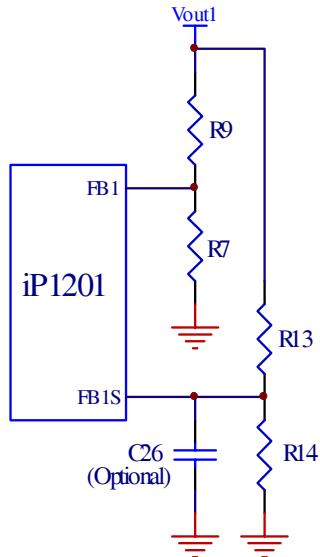

Fig. 19: Typical scheme for output voltage setting
Both outputs of the iP1201 will shut down if either one of the outputs experiences a voltage in the range of 115% of  $V_{OUT}$ . The overvoltage sense pins FB1s and FB2s are connected to the output through voltage dividers,  $R_{13}$  and  $R_{14}$  (Fig. 19), and the trip setpoints are programmed according to equation (1). Separate overvoltage sense pins FB1s and FB2s are provided to protect the power supply output if for some reason the main feedback loop is lost (for instance, loss of feedback resistors). If this redundancy is not required and if Type II control loop compensation scheme is utilized, FB1s and FB2s pins can be connected to FB1 and FB2 pins respectively. An optional 100pF capacitor (C26) is used for delay and filtering purposes.
When selecting output capacitors, it is important to consider the overshoot performance of the power supply. If the amount of capacitance is not adequate, then, when unloading the output, the magnitude of the overshoot due to stored inductor energy, and depending on the speed of the response of the control loop, can exceed the overvoltage trip threshold of the iP1201 and can cause undesirable shutdown of the output. The magnitude of the overshoot should be kept below  $1.125V_{out}$ . To prevent the overshoot from tripping the output a delay can be added by installing capacitor C26 as shown in Fig.19.
From Fig. 19 the transfer function  $H(s)$  of the error amplifier is given by (9):